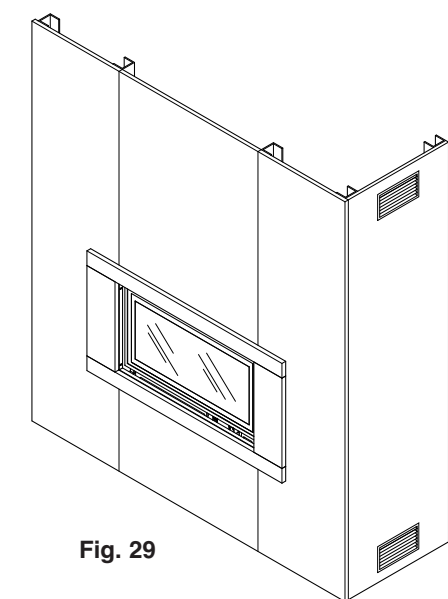

Fig. 29
3. Once the adhesive has cured, locate the surround into the fire place opening and lower the 4 slots over the rollers (Fig. 29).